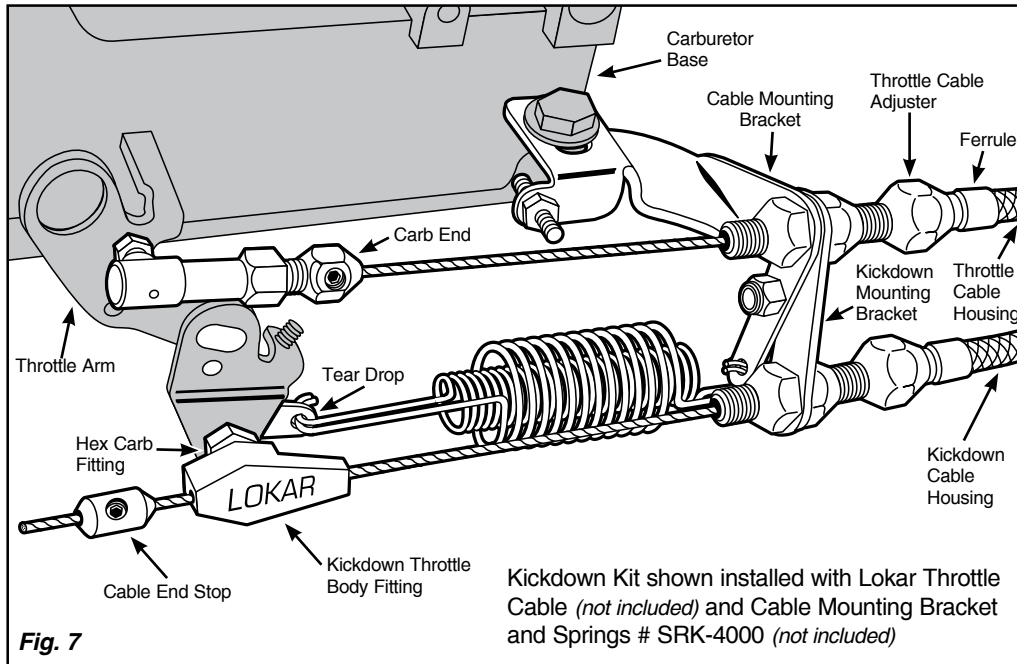
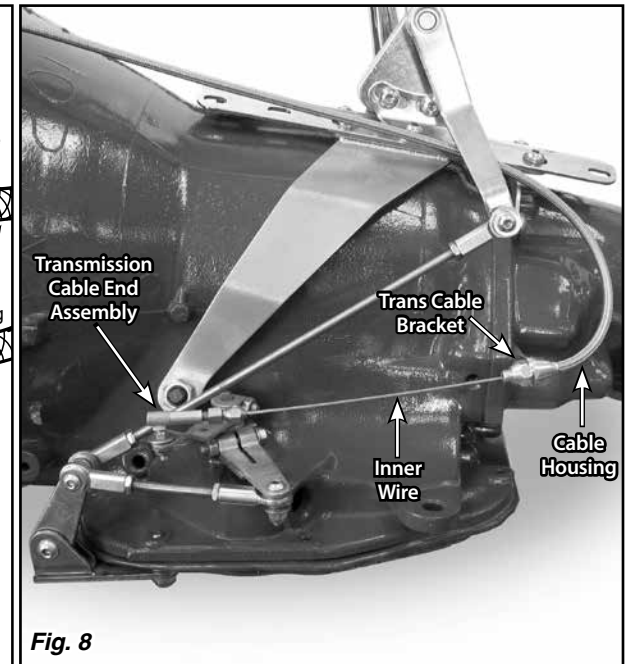

Fig. 7
Fig. 8
Step 7: The tear drop (not included, comes with the Cable Mounting Bracket) will be attached to the throttle arm by the hex carb fitting. Separate the hex carb fitting from the kickdown throttle body fitting. Install the hex carb fitting and the tear drop onto the throttle arm as shown in Fig. 7. Hook the springs to the tear drop and tighten the nylock nut on the hex carb fitting. Then, back the nylock nut off just enough that the tear drop can pivot freely.
Final installation should look like **Fig. 7** and **Fig. 8**.